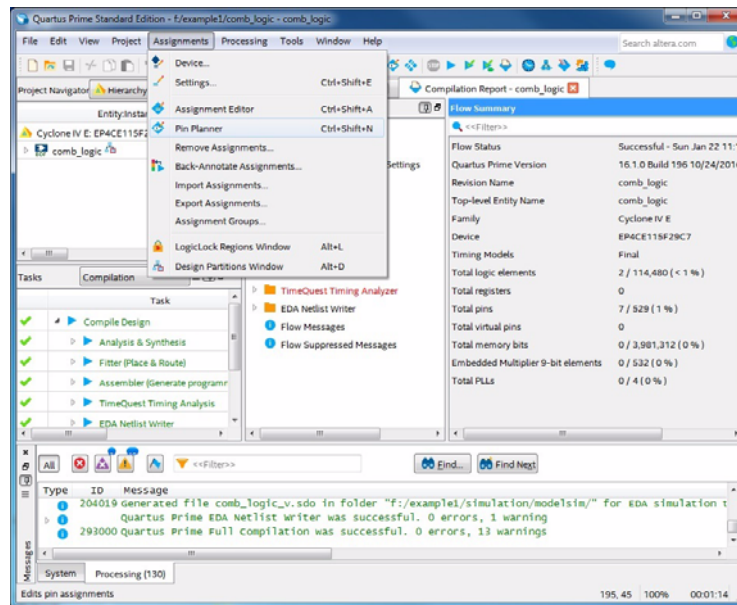

**Figure 5.1 DE2-115 Board**
- 1 To enable such a configuration of the DE2-115 board, one must first plug in its power supply cable, and plug in the USB cable to the port marked in Figure 5.1 (the other end of the cable must be inserted into the USB port of the computer that is running the Quartus Prime software). It is also important to make sure that the *On/Off* button is in the *On* position and that the *Run/Prog* switch is in the *Run* position.